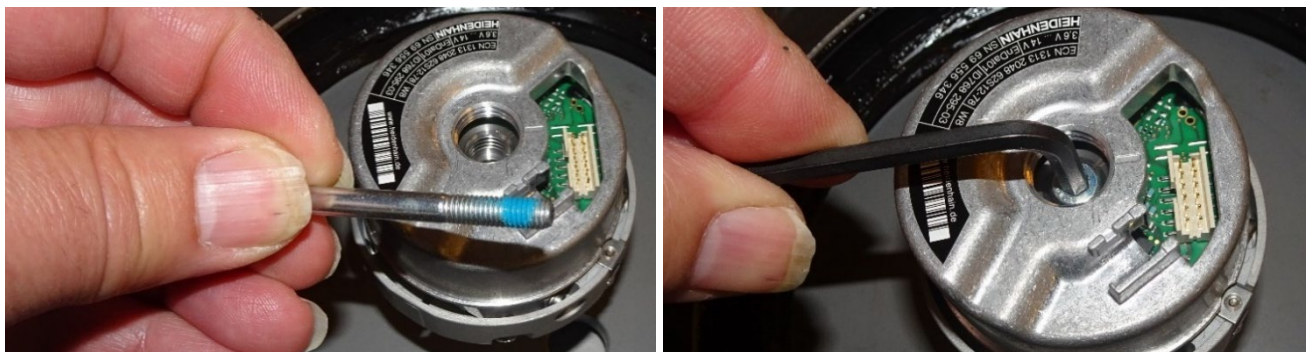

Figure 28
3. Install the encoder to the encoder cover. Use the bolt M5 to secure the encoder to the encoder cover by hex wrench (4mm). Use 4mm socket Allen and torque wrench to tighten the bolt to 44 in-lbs. See Figure 28.